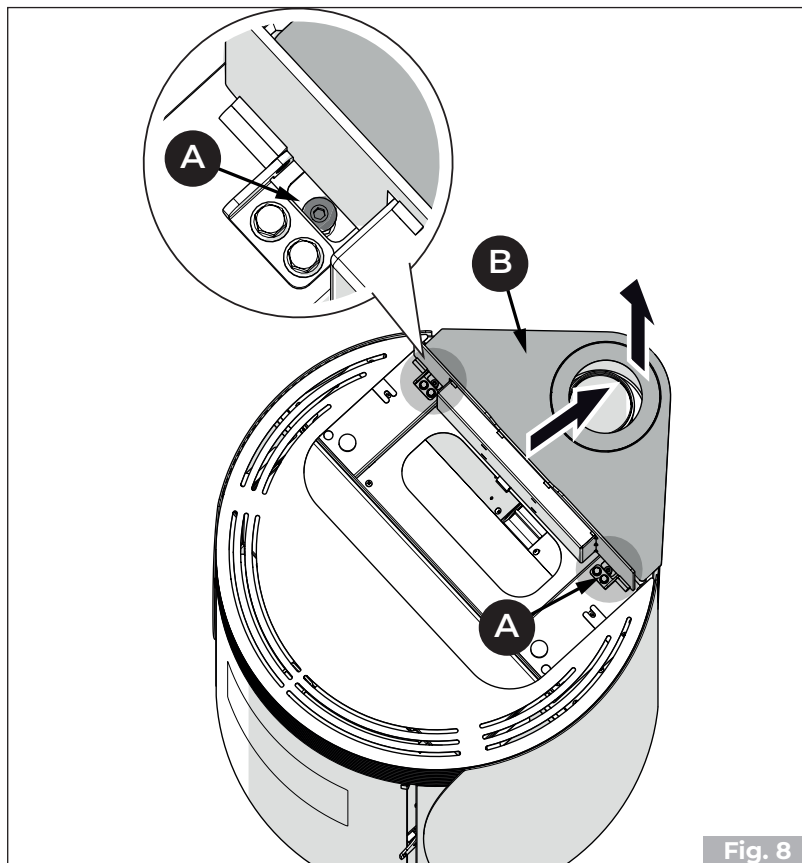

Fig. 8
- Loosen the screws **(A)** and pull out the top **(B)** (**Fig. 8**).